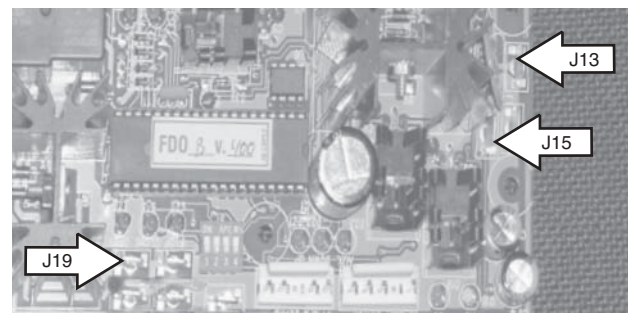

Figure 3
1. Pull red wire off of J13 of the logic board and meter for 27.3 - 27.8Vdc versus terminal #15 of the logic board. Replace the loose red wire on J13 of the logic board (Figure 3).